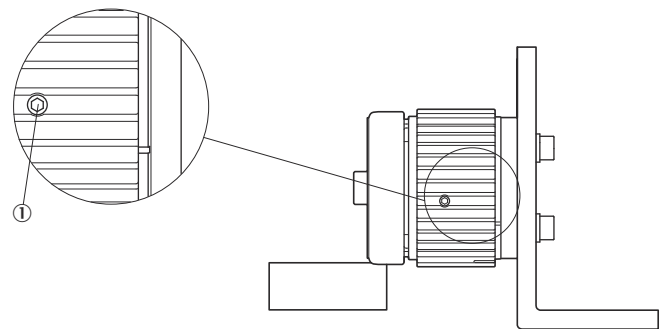

Figure 13: CCW force setting at two force steps
- ▶ For extra safety, secure locker with M5 set screw (figure 13) and 2.5 N.
① NOTE